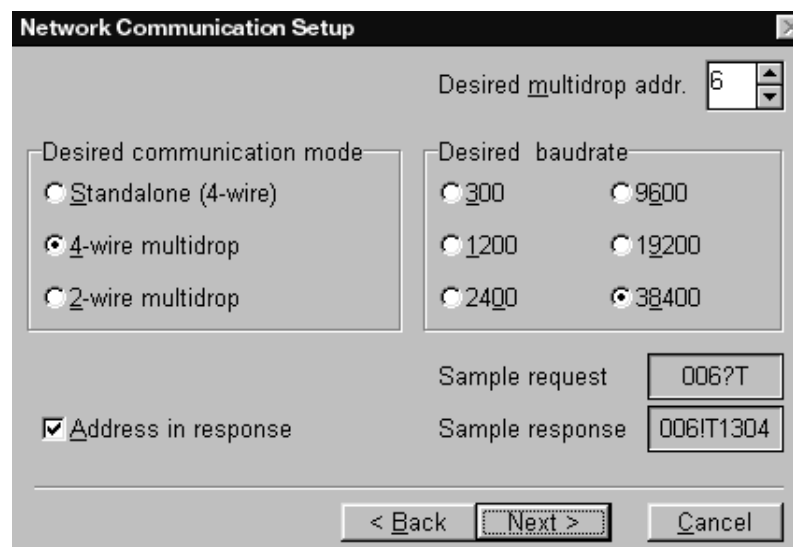

Figure 3-10: Address Selection Screen
- Now you can set the attached sensor's address (Figure 3-10). Select a number (one not used by another sensor on the multidrop network). Select the desired communication mode, the desired baud rate, and if you want the multidrop address in the response. The desired communications mode need not match the current setup. For example, you may connect a sensor to a 4-wire system, configure it to 2-wire mode, and then move it to the 2-wire system. Click the Next button.